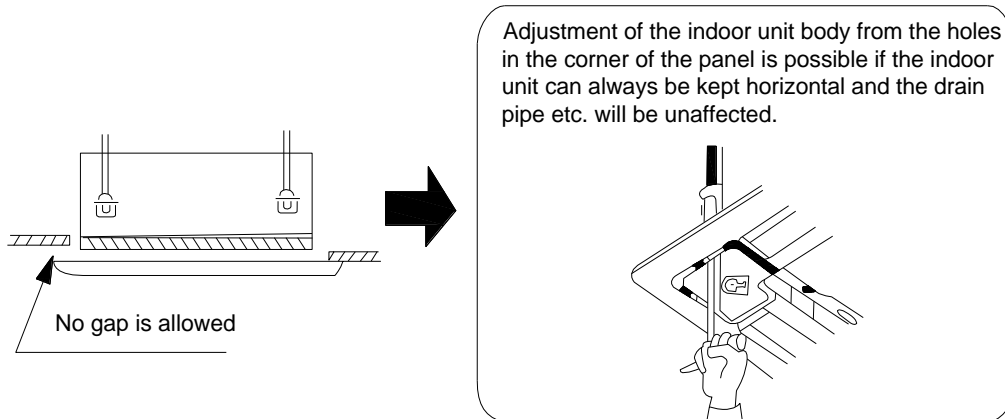

Figure 3-1-47
- (8) If gap still exists between ceiling and decoration panel after tightening the screws, readjust the height of the indoor unit (Figure 3-1-47).